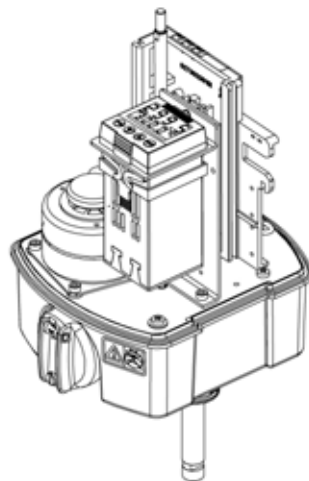

Fig. 20: Installation dTRON 316 ARI-PREMIO® 2,2 - 5 kN
- Mount the temperature controller on the gear plate by using the specific installation kit (Fig. 20).